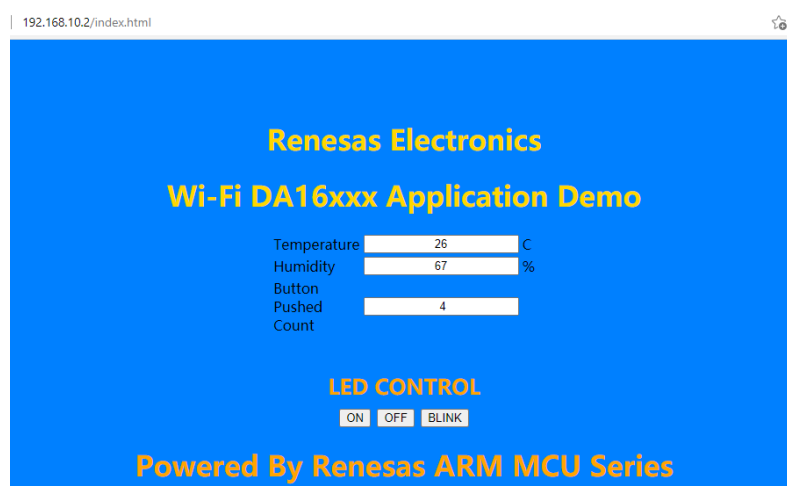

Figure 7. Customized Interface
3. Open a browser such as Google Chrome or Microsoft Edge, input **http://192.168.10.2/index.html** and the customized interface opens (Figure 7).